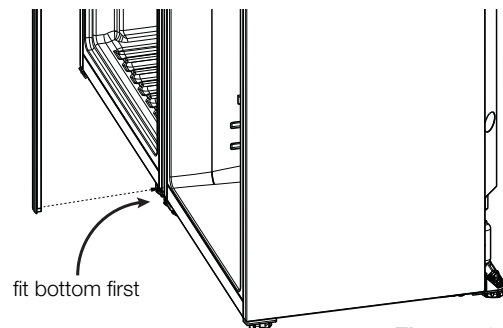

Figure 12
- Engage the bottom end of the centre trim into the tensioner of the bottom-front bracket. (Fig. 12)